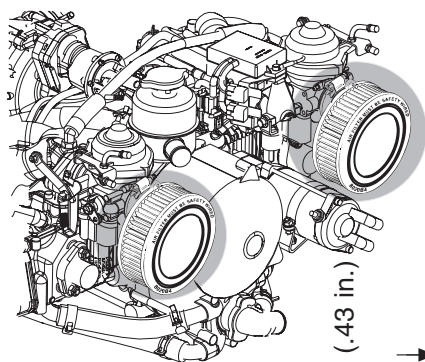

fig. 4
For dimensions of safety wire tab see fig. 4. The significant modifications of the new air filter are the tab for safety wiring (1) and the warning note (2).
◆ **NOTE:** The securing tab provides the aircraft manufacturer with a simple method of securing the air filter. See fig. 4.
- ▲ WARNING: Airfilter must be lockwired to prevent loosening on the assigned lug. See fig. 4.